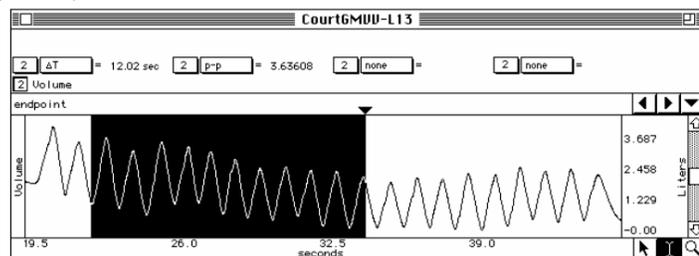
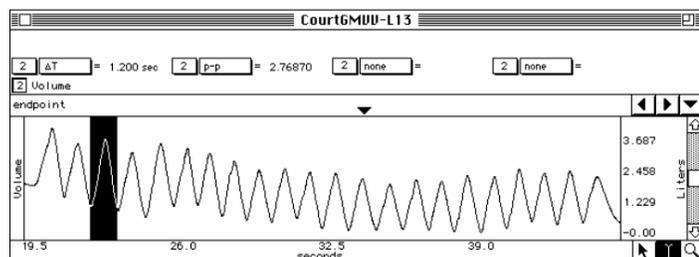

Fig. 13.22
Fig. 13.23
- Use the **I-beam** cursor to select a twelve-second area that is convenient to count the number of cycles in the interval (Fig. 13.22).
The example shown in Fig.13.22 is a 12-second interval with about 10.5 cycles. The selected area shows 10 complete individual cycles and one incomplete cycle at the end.
- Place a marker at the end of the selected area (Fig. 13.23).
Fig.13.23 shows the first cycle of the 12-second interval defined in Fig. 13.22 selected: